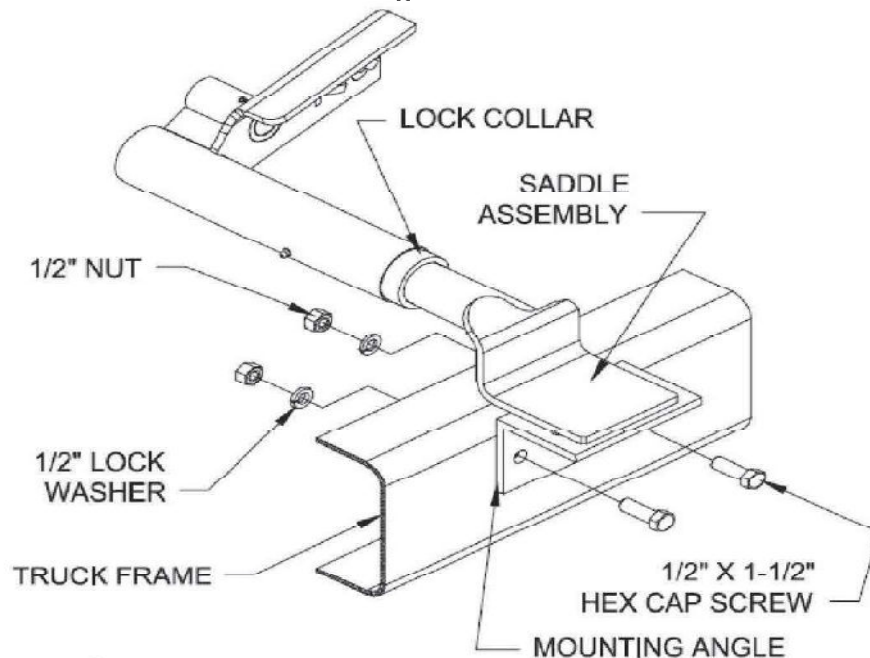

Figure 4: Saddle Assembly
3. Position the rear hinge angle into the notch cut in Step 2 as shown in Figure 4. Center it side-to-side in the notch as illustrated and weld the rear hinge angle to each of the truck chassis frame rails.
5. Install and lubricate all grease fittings and tighten to 70 lbs–in. See Figure 4 and Section 6: Maintenance for grease fitting locations.